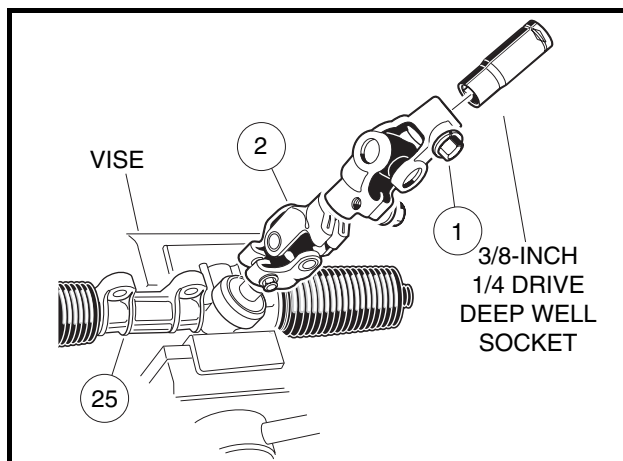

Figure 7-15 Rack and Pinion Resistance
- 11.2. Insert a 3/8 inch deep well socket into the steering column end of the universal joint (2) and tighten the bolt (1) to 15 ft-lb (20.3 N·m) (**Figure 7-15, Page 7-11**).